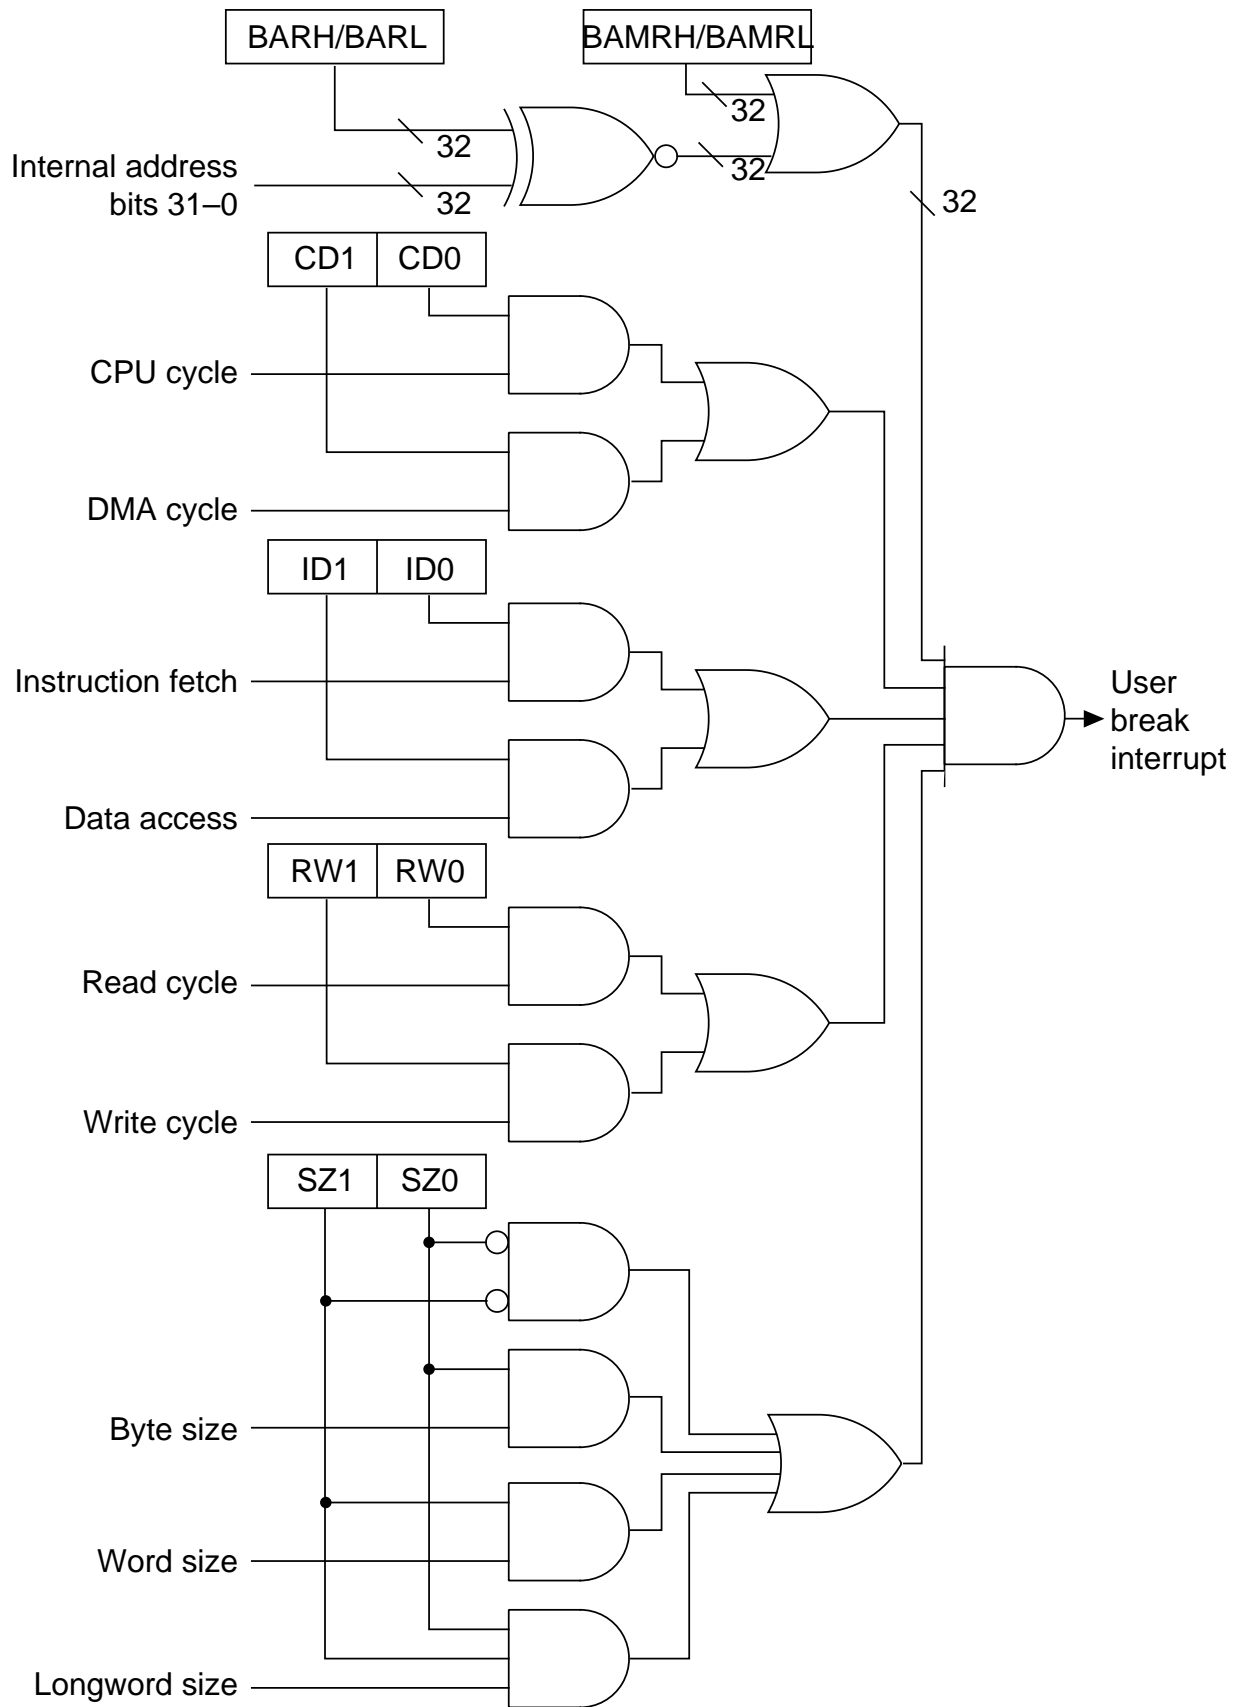

Figure 6.2 Break Condition Logic
2. The UBC checks to see if the set conditions are satisfied, using the system shown in figure 6.2. When the break conditions are satisfied, the UBC sends a user break interrupt request to the interrupt controller.
3. On receiving the user break interrupt request, the interrupt controller checks its priority level. The user break interrupt has priority level 15, so it is accepted only if the interrupt mask level in bits I3–I0 in the status register (SR) is 14 or lower. When the I3–I0 bit level is 15, the user break interrupt cannot be accepted, but is held pending until user break interrupt exception handling is carried out. NMI exception handling sets I3–I0 to level 15, so a user break cannot occur during the NMI handling routine unless the NMI handling routine itself begins by reducing I3–I0 to level 14 or lower. Section 5, Interrupt Controller, describes the handling of priority levels in greater detail.